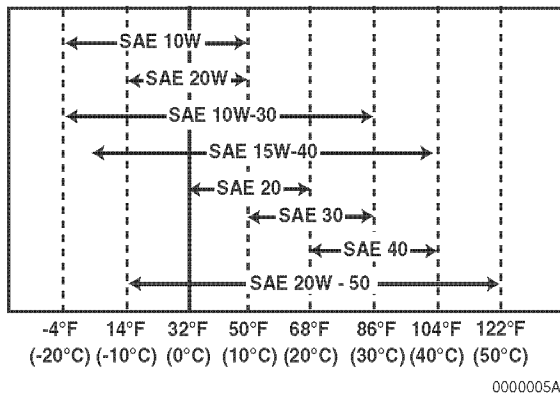

Figure 4-5
3. Select the oil viscosity based on the ambient temperature where the engine is being operated. See the SAE Service Grade Viscosity Chart (Figure 4-5).
Select the appropriate engine oil viscosity based on the ambient temperature and use the SAE Service Grade Viscosity Chart in Figure 4-5.